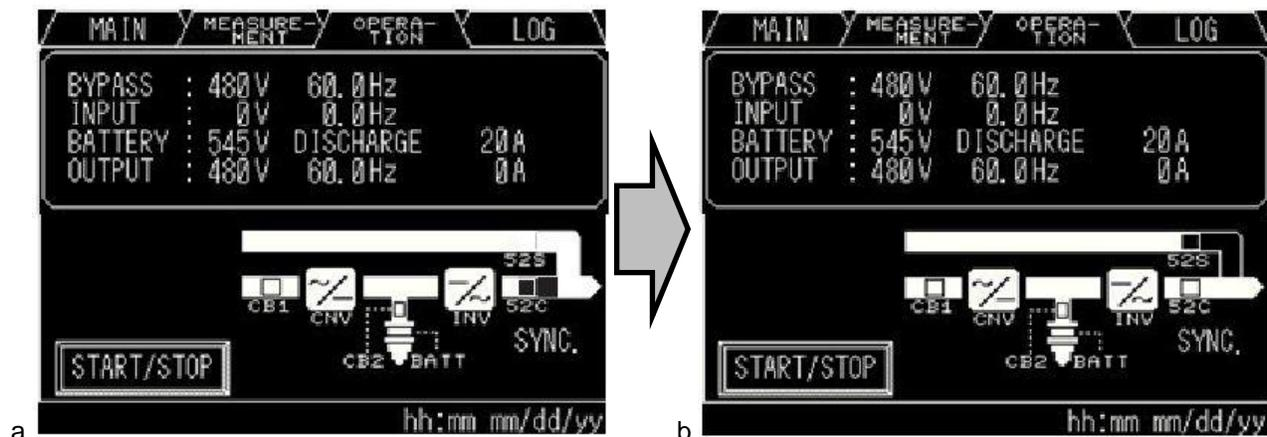

**Figure 5-23 Transfer from Online to Bypass**
- The UPS transfers to Bypass. (Figure 5-23) The Bypass contactor (52S) closes and the Inverter contactor (52C) opens. (Figure 5-23b)